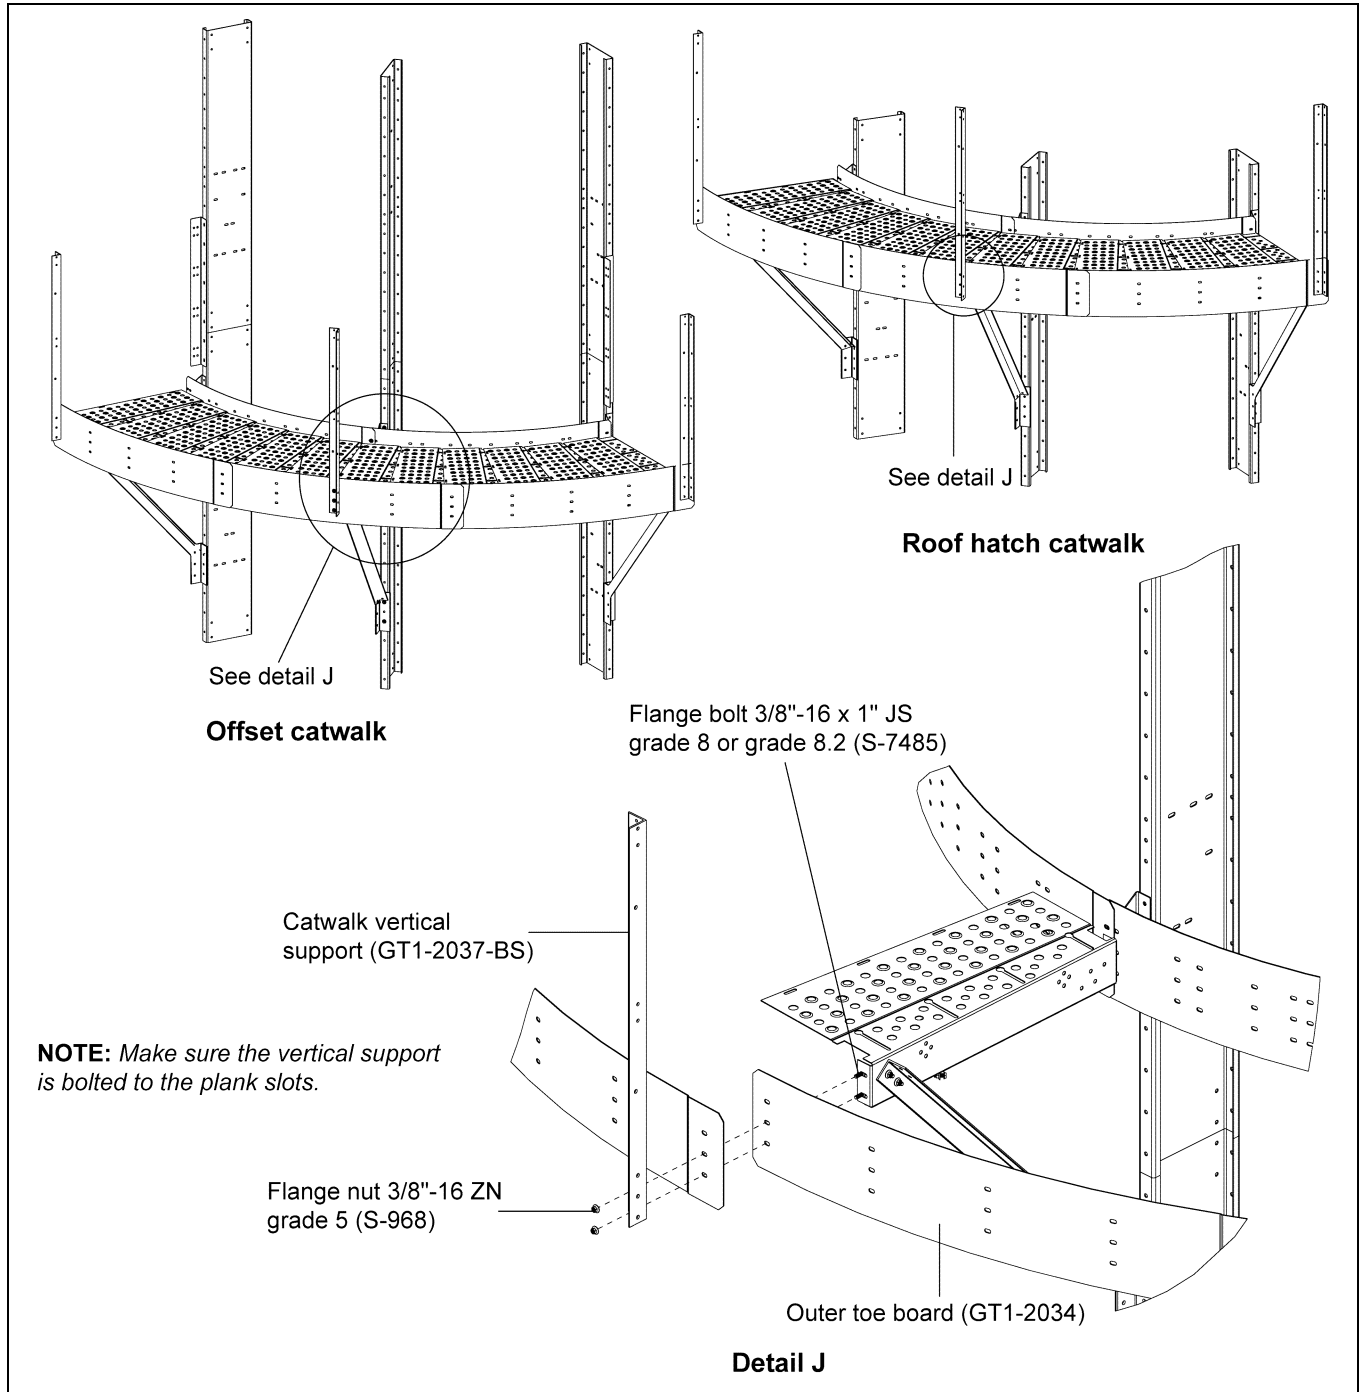

Figure 6T Outer Toe Board (GT1-2034) and Vertical Support (GT1-2037-BS)
1. Install all the outer toe boards (GT1-2034) to the planks (GT1-2033). (See Figure 6T.)
2. When installing the outer toe board with planks, install the catwalk vertical support (GT1-2037-BS) simultaneously at proper locations using 3/8"-16 x 1" JS grade 8 or grade 8.2 bolts (S-7485) and 3/8"-16 ZN grade 5 nuts (S-968). (See Figure 6T.)